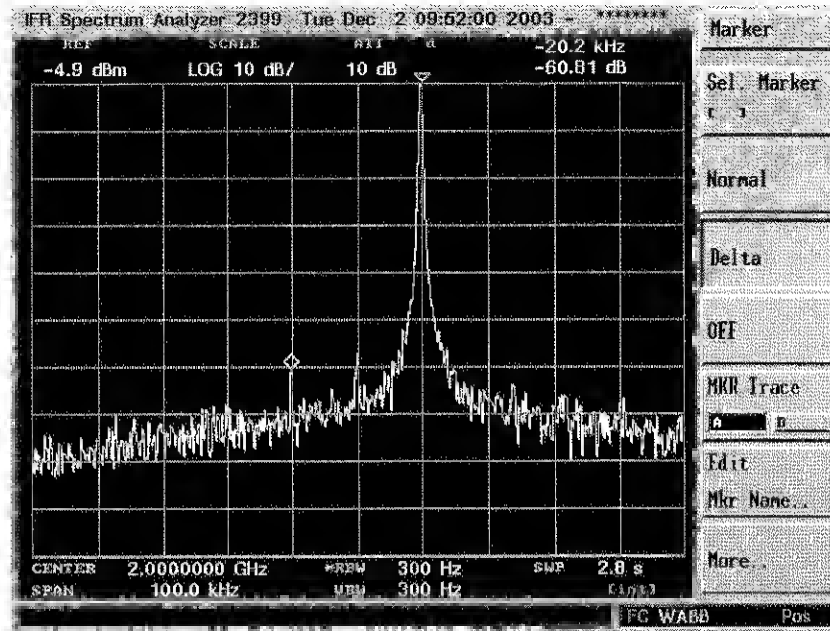

Fig. 6-8 Spectrum analyzer display showing suppressed LSB image measurement
- 10 Using the spectrum analyzer's Marker Delta facility, measure the level of the suppressed LSB relative to the USB as shown in Fig. 6-8.